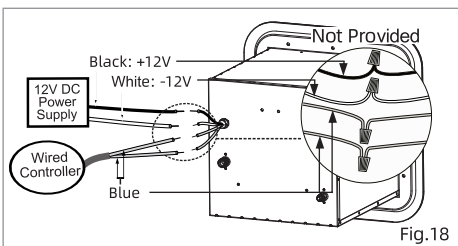

Fig.18
2. Connect the power supply wires (on rear of water heater- white and black wire) to the appropriate nominal 12V DC power source connection. (Fig.18)
3. Connect the wall controller wires (2 blue wires on the appliance). (Fig.18)